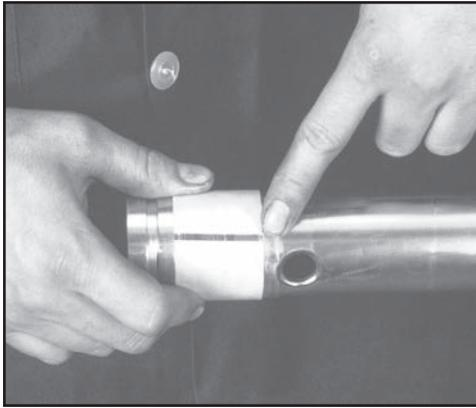

**FIG. 72: INSERT PISTON**
1. Position the front slide tape in the groove on the piston and begin to insert the piston (see Fig. 72).